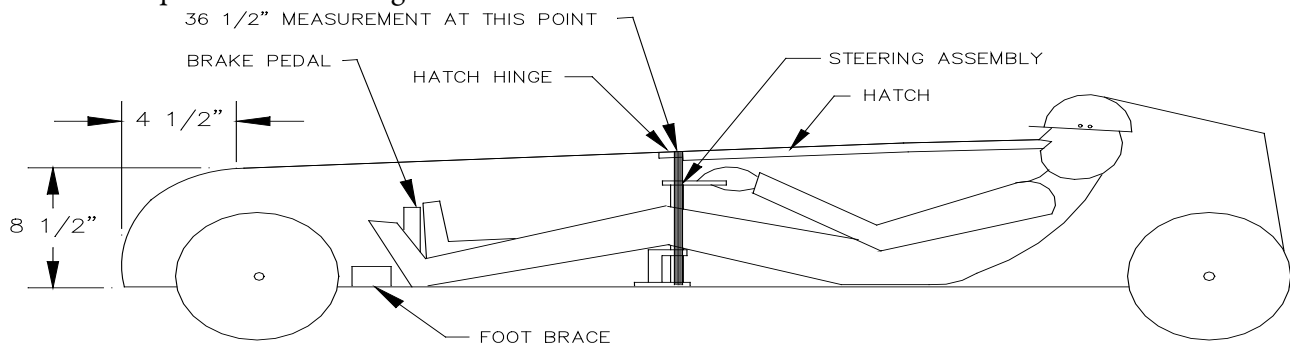

FIG. 1.0
- If your car does not measure $36\frac{1}{2}$ " the shell must be raised on the floorboard to meet the required measurement. The shell must be installed flush to the nose of the floorboard (No gap). **The height of the nose shall be $8\frac{1}{2}$ " high at $4\frac{1}{2}$ " back from the front of the car - measurement is taken on the outside of the car.** See figure 1.0). This verifies an unaltered shell. Notch your nose gauge for the screw in the nose of the shell. Do not include the screw and washer as part of the nose height measurement. See Photo #13.2.